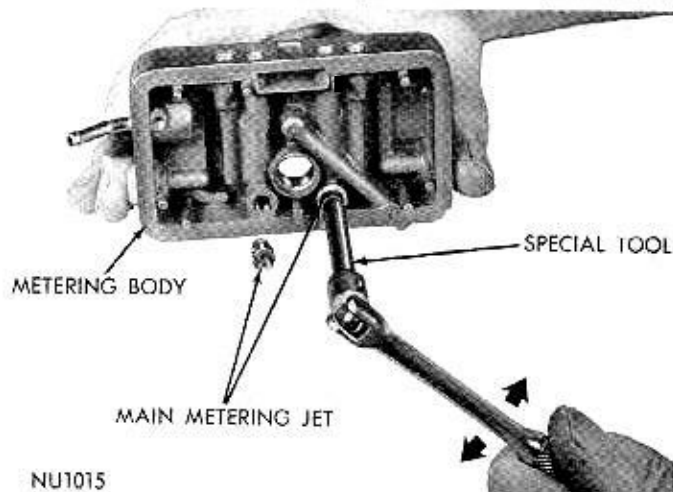

Fig. 16—Removing or Installing Main Metering Jets
(2) Using Tool C-3748, remove main metering jets (Fig. 16).
(1) Install main metering jets (No. 63) in metering body, using Tool C-3747. Tighten securely (Fig. 16).